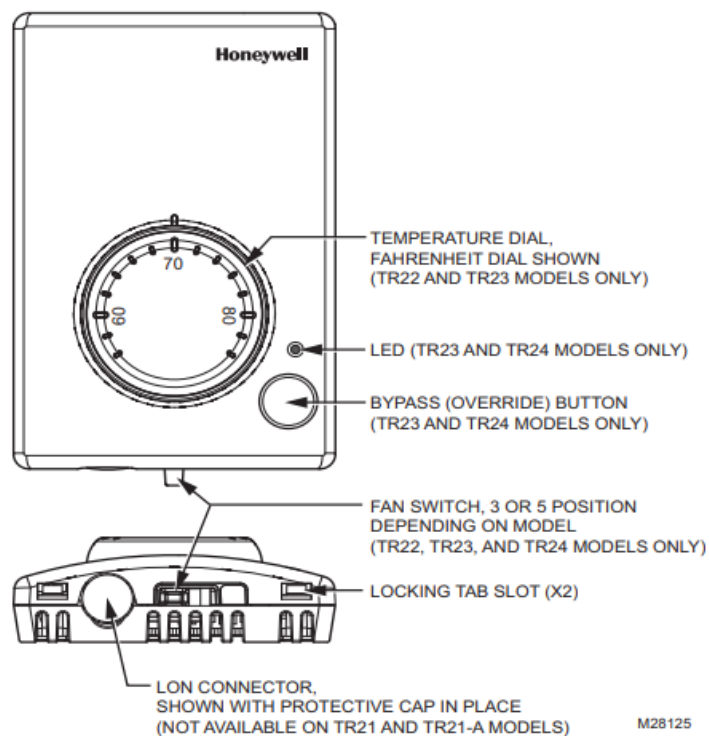

Fig. 2. Wall Module Features (TR23-F Shown).
1. Insert a thin, flat-blade screwdriver into each of the two slots at the bottom of the module to release the two locking tabs. See Fig. 2 on page 2.